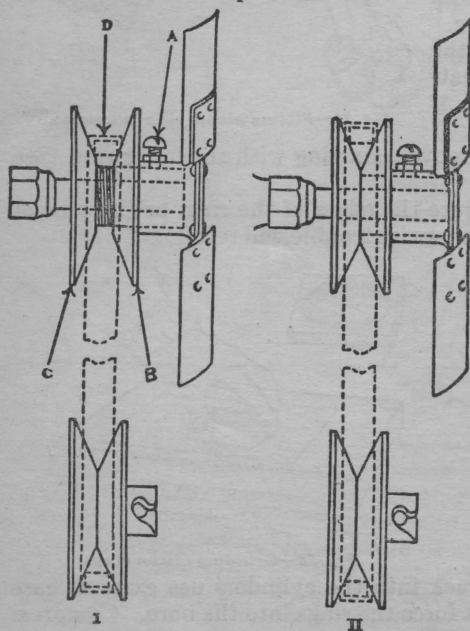

Fig. 39—Fan belt adjustment
To tighten the fan belt, remove set screw A, (See Fig. 39) and turn the adjustable flange (B) with the fan blades in the same direction as the hands of a clock, thus bringing it nearer the stationary flange (C), which will cause the belt to ride higher in the groove. A suitable spanner wrench for holding the stationary flange (C) is
Loosen the jam nut holding set screw (A) (See Fig. 39).
Turn the adjustable flange (See Fig. 39) opposite to the direction of the hands of a clock, until the fan blades touch the radiator. The belt (D) will now rest upon the threaded hub (See Fig. 39, Sketch I). Fan Pulley Flange